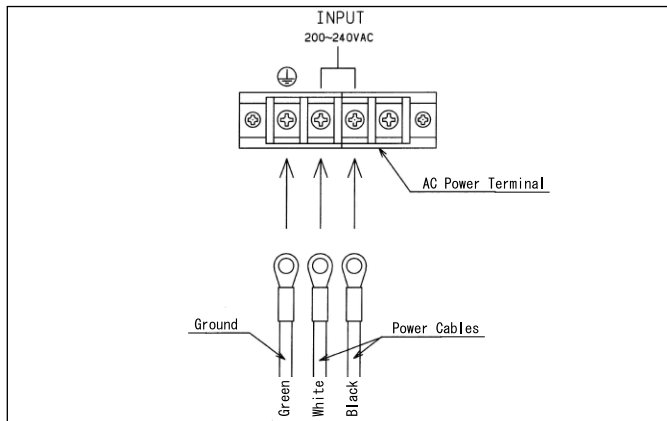

Fig 12
- 1) Use the provided screws to firmly fasten the AC power cord to the AC Power Terminal (24) on the rear of the control unit as shown in Fig 12.